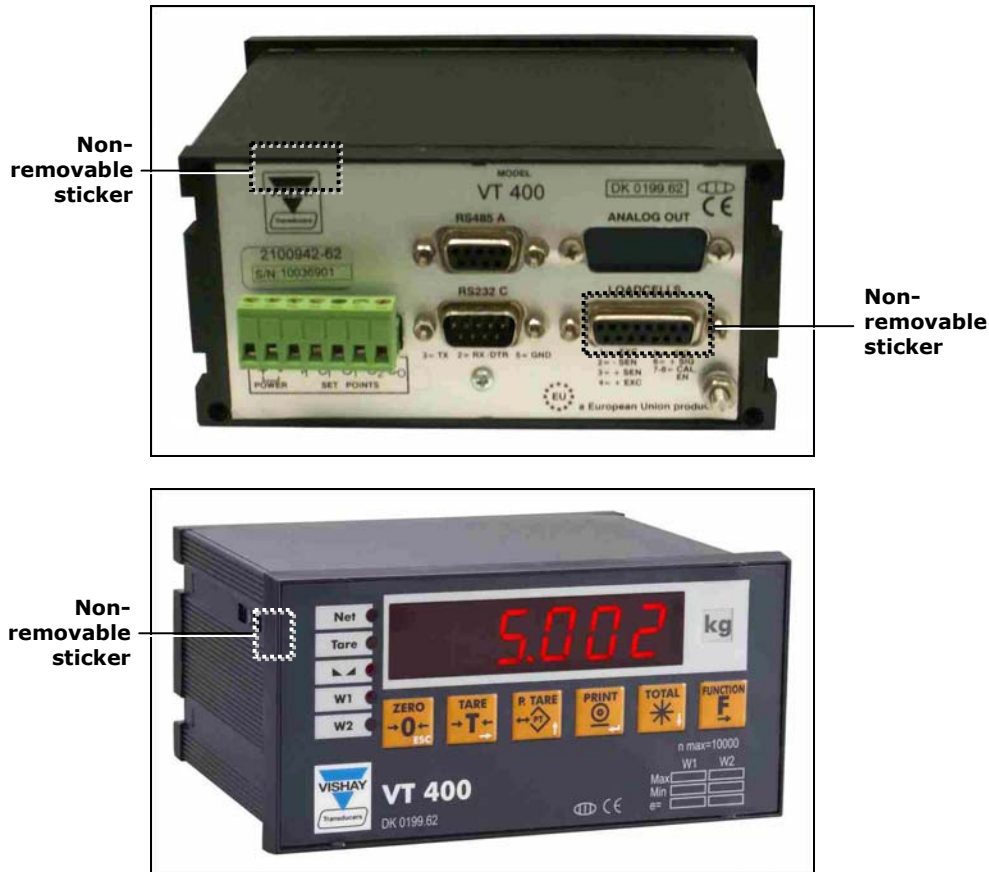
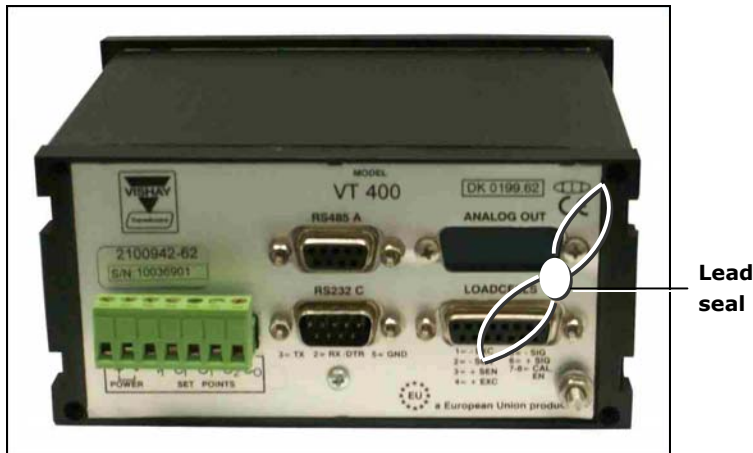

Figure 7 – Desktop model, sealing with non-removable sticker
Figure 8 – Desktop model, sealing with lead seal / non-removable sticker
- Refer to Figure 7 below for the non-removable sticker, and to Figure 8 for the lead seal / non-removable sticker. You must apply both stickers.